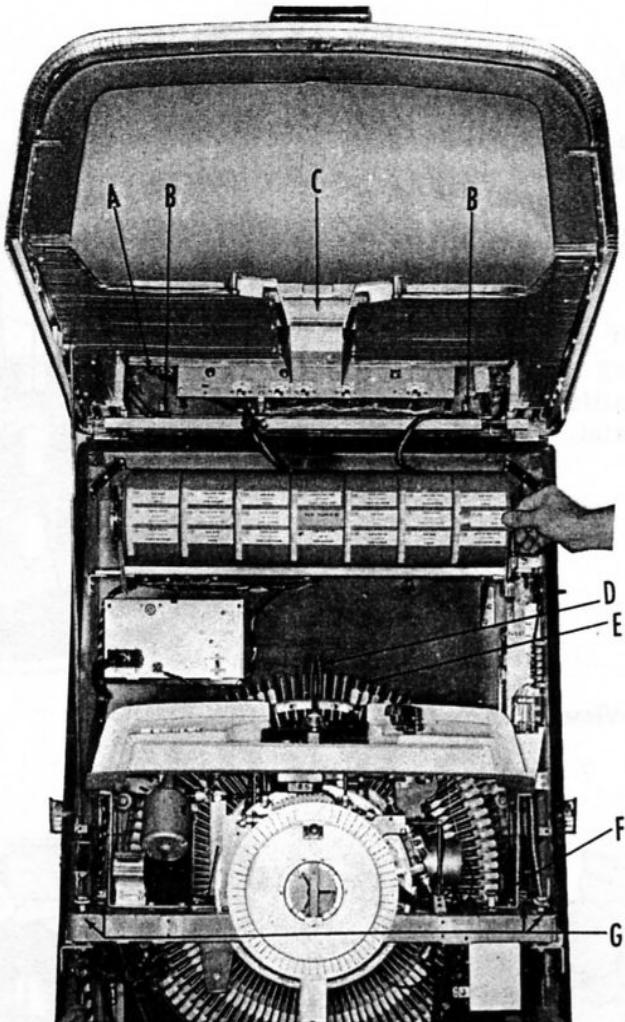

FIG. 4—Inside View of Cabinet
2. Cabinet lighting is accomplished with two 20 watt fluorescent tubes located in the dome at (A-Fig. 4) and (C-Fig. 4). The fluorescent light starters are on the dome rail panel at (B-Fig. 4).
Four anchor bolts (G-Fig. 4) must be unscrewed as far as possible before operating phonograph. These bolts must be tightened securely whenever the phonograph is transported.
The "service scan switch" (F-Fig. 4) located on the right front chassis above control box, may be operated at any time to stop mechanism at any point of operation. For service purposes, make certain that switch is in "Operate" position after servicing mechanism.
Moving service scan switch (F - Fig. 4) to the left to "scan" position, causes the record magazine (E-Fig. 4) to rotate. Releasing the service scan switch will stop the record magazine in any position to install or remove records.
2. Move service scan switch (F-Fig. 4) to "scan" position and hold there until record magazine rotates.
3. If record magazine does not rotate due to phonograph being in "Music play" position, place tone-arm in record cut-off groove and allow grip arm (D-Fig. 4) to return record to record magazine. The record magazine will then rotate.
4. After record magazine begins to rotate, move service scan switch (F-Fig. 4) to "OFF" position.